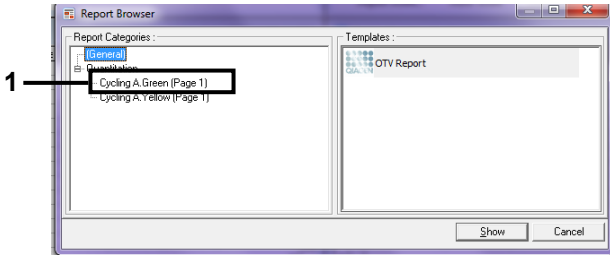

Figure 24. Report browser. (1 = "Cycling A. Green [Page 1]")
20. In the report browser, click **Cycling A Green** in the **Report Categories** section (Figure 24).